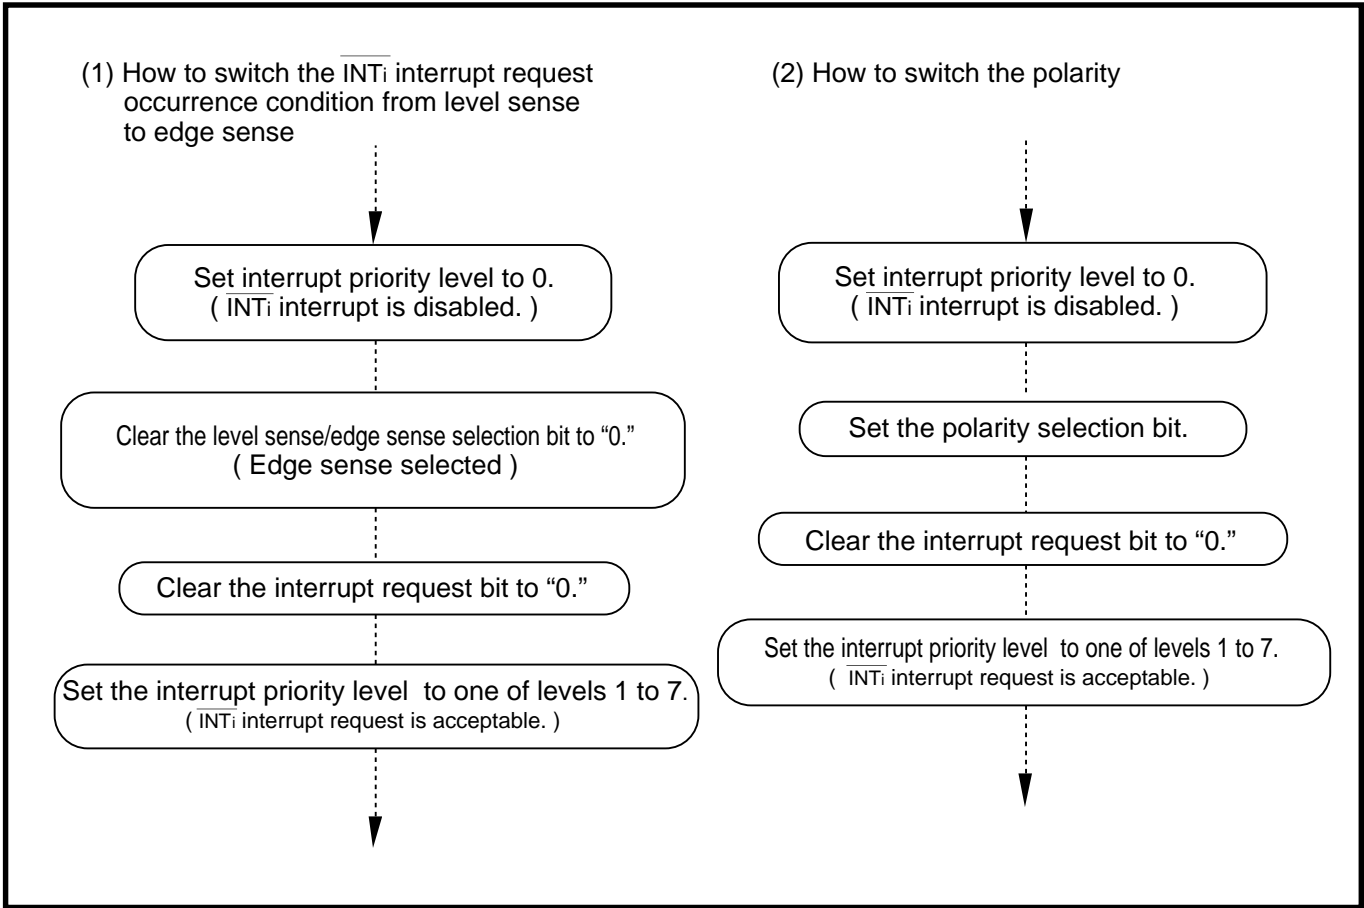

Fig. 4.10.5 How to switch $\overline{\text{INTi}}$ interrupt request occurrence condition
The way to switch the $\overline{\text{INTi}}$ interrupt request occurrence condition from the level sense to the edge sense is shown in Figure 4.10.5 (1).
The way to switch the polarity is shown in Figure 4.10.5 (2).